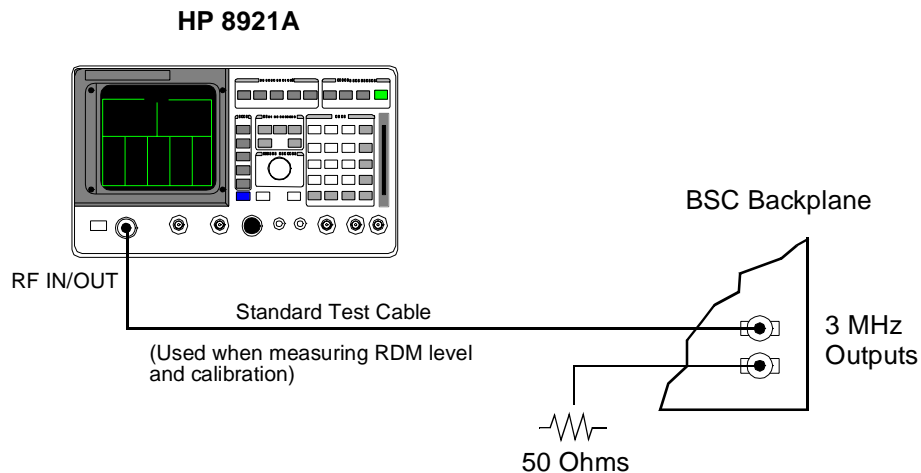

Figure 13
7. See *figure 13*. Connect a standard test cable between the 3 MHz Phono #2 jack, and the Test Set RF IN/OUT connector.